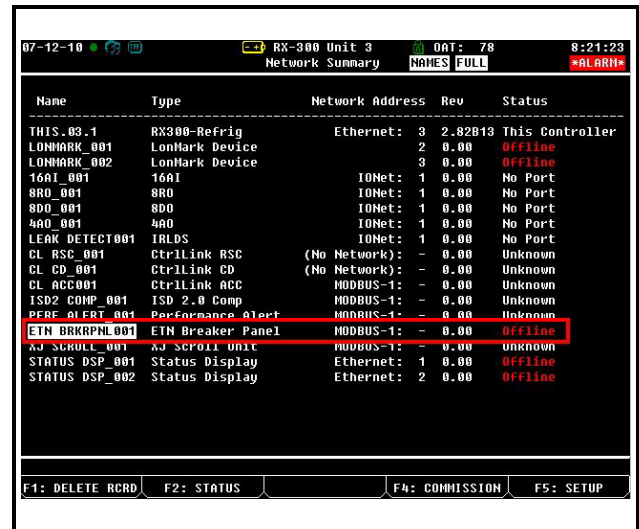

Figure 3-9 - Network Summary Screen
4. Press to return to the Network Setup menu, then select - **Network Summary** (Figure 3-9).